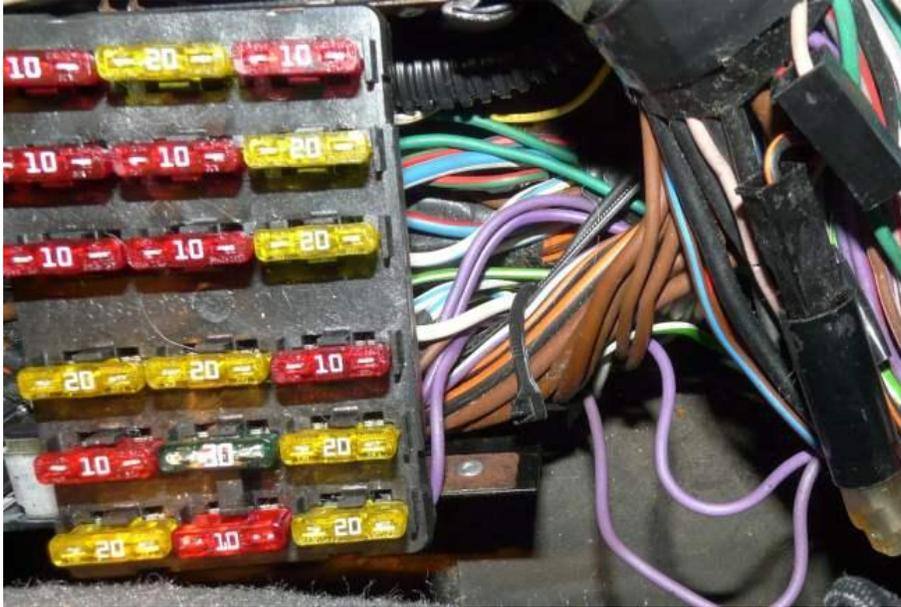

Figure 4. Make sure you verify you have the correct purple wire.
3) Now to get power to the module and interrupt the dome light power you install the new red wire with the crimped terminal into the white socket pin #87a. Install the new blue wire with the crimped terminal into the white socket pin #85. Tie wrap these new wires into the harness under the sockets to prevent pulling the wires too short for the next step. Route these new wires along the existing wire bundle and exit out the right side of the fuse block. Cut the purple wire in the large bundle on the right side of the fuse block (this wire comes from fuse #12). Note that there are some other purple wires in this area (see Figure 4.), confirm by a minor tug, that the purple wire you are about to cut goes to fuse #12. Attach the new red wire to the cut purple wire that goes to the fuse. Attach the new blue wire to the cut purple wire that goes into the large bundle on the right side of the fuse block.